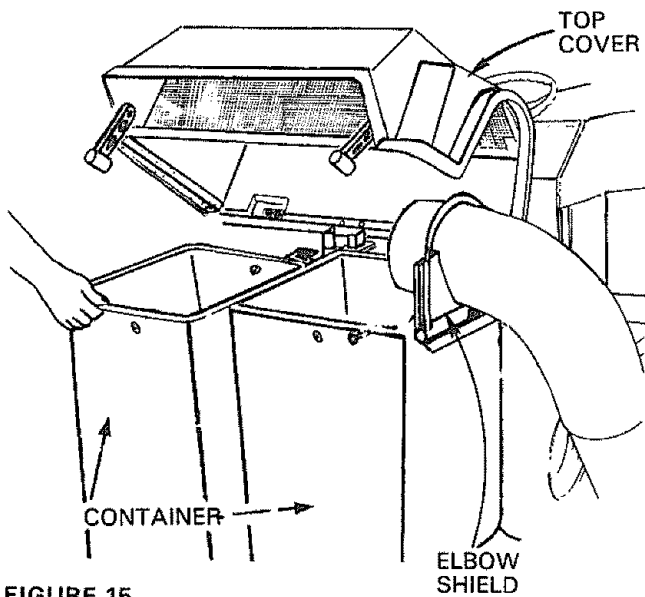

FIGURE 15
- a. Unlatch cover (Fig. 15). Remove grass catcher assemblies.